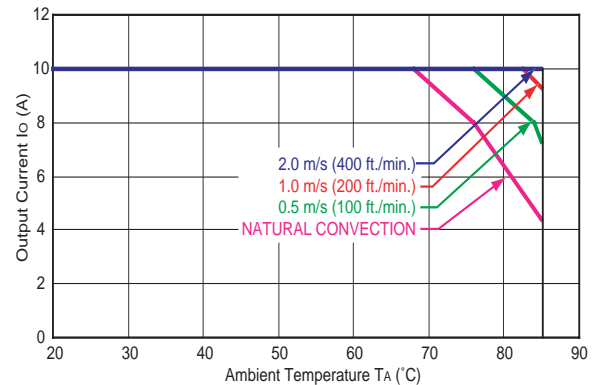

Figure 44. Derating Curves for HW010A0F1 (VO = 3.3 V) in Transverse Orientation (VI = 48 Vdc).
Increasing airflow over the module enhances the heat transfer via convection. Figures 44—48 show the maximum current that can be delivered by various modules versus local ambient temperature (TA) for natural convection through 2 m/s (400 ft./min.).
Systems in which these power modules may be used typically generate natural convection airflow rates of 0.3 ms^{-1} (60 ft./min.) due to other heat-dissipating components in the system. Therefore, the natural convection condition represents airflow rates of up to 0.3 ms^{-1} (60 ft./min.). Use of Figure 44 is shown in the following example.
Determine airflow (v) (Use Figure 44.):